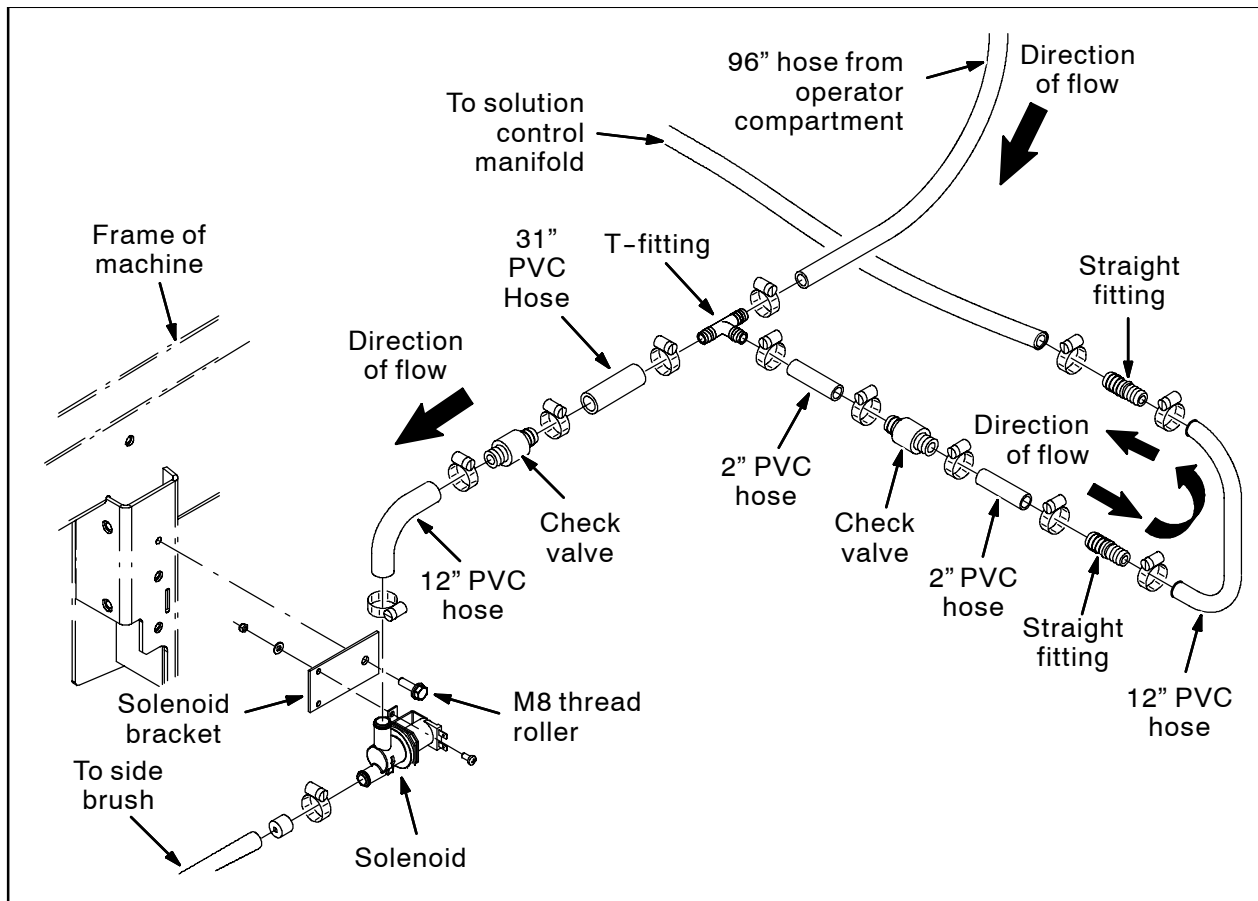
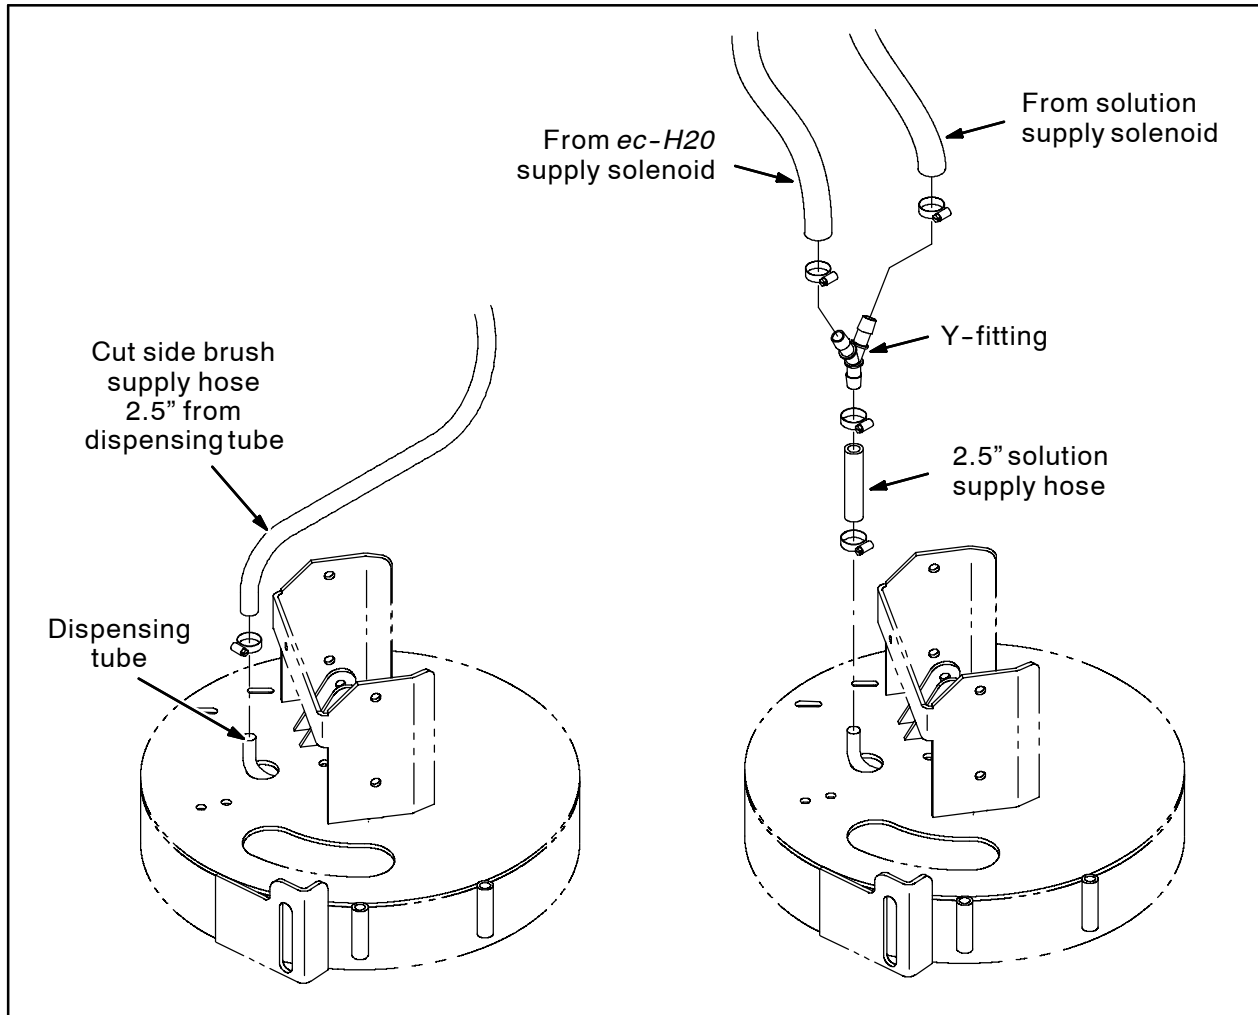

FIG. 3 - Machines With Optional Side Brush
FIG. 4
16. Cut 12" from one end of the 43" PVC hose. Refer to Fig. 3.
17. Use two hose clamps to install a check valve between the 31" and 12" PVC hoses. Note the direction of flow. Refer to Fig. 3.
18. Use two M5 pan screws, two flat washers, and two M5 hex nuts to install the solenoid onto the solenoid bracket. Refer to Fig. 3.
19. Use a M8 thread roller to install the solenoid / solenoid bracket onto the frame of the machine. Refer to Fig. 3.
21. Assemble the check valve, straight fittings, 12" hose, and 2" hoses as shown in Fig. 3. Note the direction of flow.
22. Use a hose clamp to connect the hose assembly assembled in the previous step to the t-fitting on the 60" PVC hose from the operator compartment. Refer to Fig. 3.
23. Route the end of the 60" PVC hose with the t-fitting / additional hose assembly from the operator compartment and down to the scrub head. Refer to Fig. 3.
24. Use a hose clamp to connect the additional hose assembly to the solenoid. Refer to Fig. 3.
26. Cut the solution supply hose 2.5" from where the hose is connected to the dispensing tube. Refer to Fig. 4.
27. Use a hose clamp to connect the y-fitting to the 2.5" solution supply hose. Refer to Fig. 4.
28. Use a hose clamp to connect the hose from the solution supply solenoid to the y-fitting. Refer to Fig. 4.
29. Use a hose clamp to connect the 20" PVC hose from the solenoid to the y-fitting. Refer to Fig. 3 and Fig. 4.